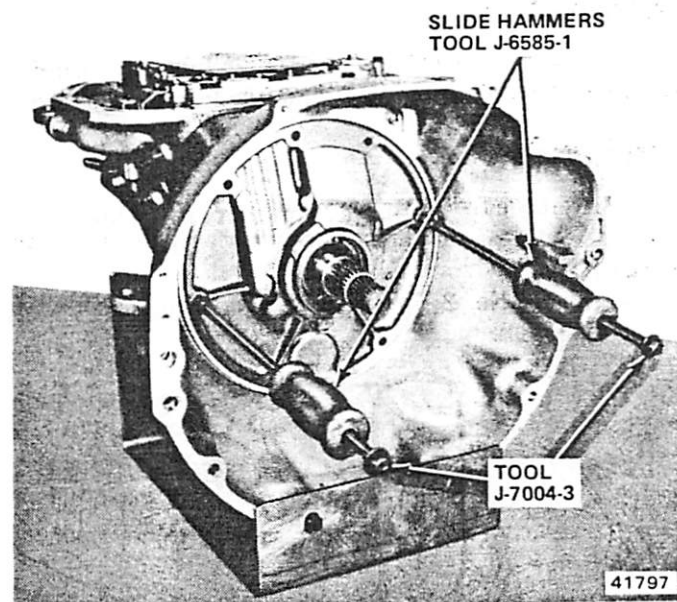

Fig. 2C-38 Oil Pump Removal
(1) Tighten front band adjusting screw until band is tight around front clutch retainer. This prevents front clutch assembly from coming out with pump and damaging clutch discs.
- (2) Remove oil pump attaching bolts.
(3) Install Slide Hammer Tool J-6585-1 on Slide Hammer Bolts Tool J-7004-3 (fig. 2C-38).